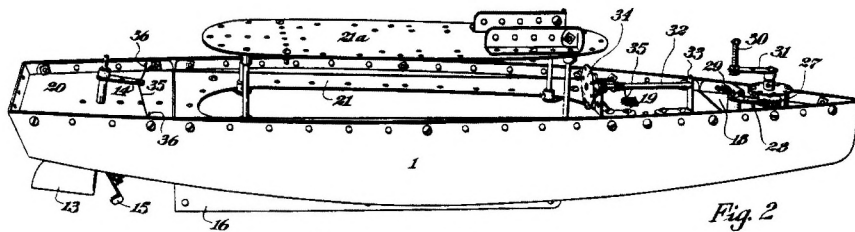

Fig. 2
**The Patent** Thanks to David Hobson for supplying a copy of the U.S. Patent No.1815708 for the ship parts. It was applied for on 12.5.30, in the name of Alfred C. Gilbert. It gives a detailed description of the parts which corresponds almost exactly with the actual parts. In addition an alternative method of making the hull (Fig.2 above) is
The standard Motor and 2-cell Battery Box with Reversing Switch are used, but are red and not the black shown in the illustrations. From the Motor a Worm drives a 57t Gear, then two belt drives, the first a 15mm to a 2" Pulley, followed by a 22mm to a second 2". The two small Pulleys are the UU & VV of Fig.2 in 10/241, but moulded onto the usual, neat STEEL TEC brass bosses. The o.d. of the 57t Gear described in 10/240 was 1.478" but this one is 1.535" and it now runs well with the OSN 10 19t Pinion at 1" centres. A minor difference is that the bore of the plastic end of the Worm is 7½mm Ø, against 4mm in the early OSN 10 example. One size of Driving Band is used, of circular section and about 7¼" circumference.